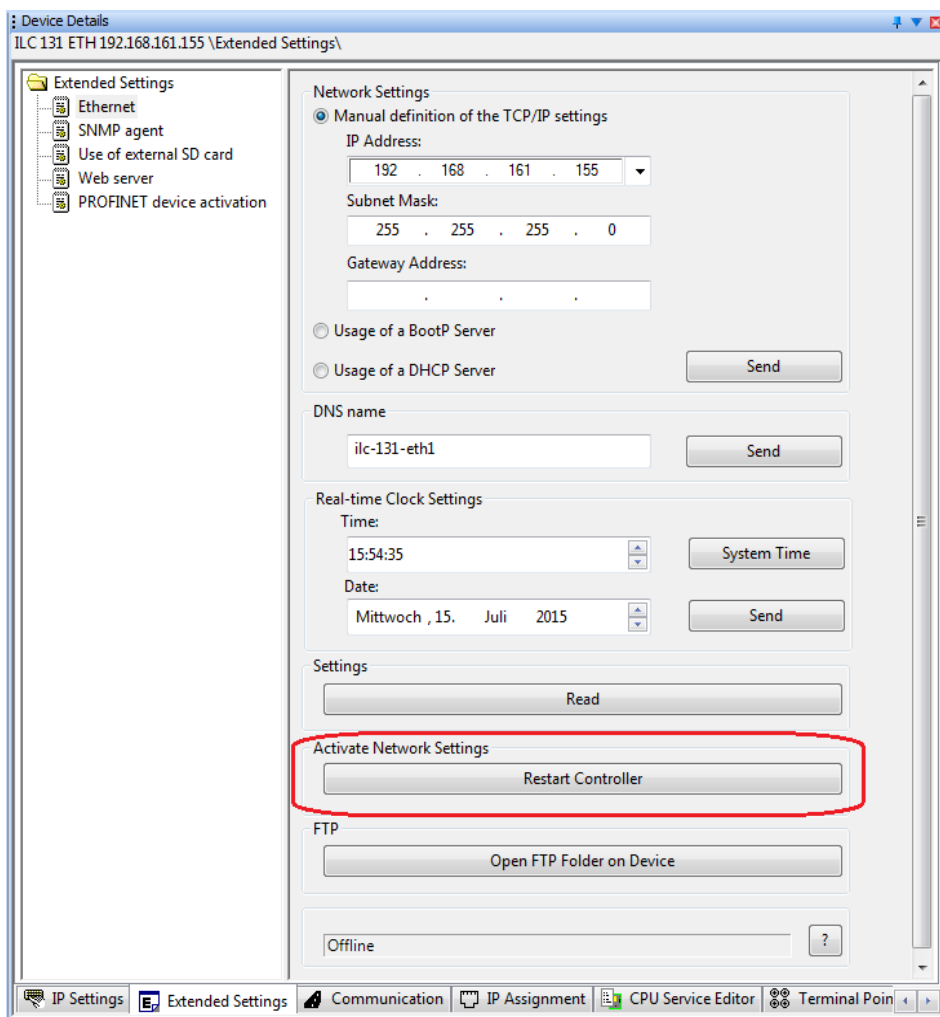

Figure 3-11 Activate Network Settings: Restart Controller
- In the “Device Details” window, select the “Ethernet” setting under “Extended Settings” (refer to Figure 3-11).
- In the “Activate Network Settings” area, click on the “Restart Controller” button (see Figure 3-11).